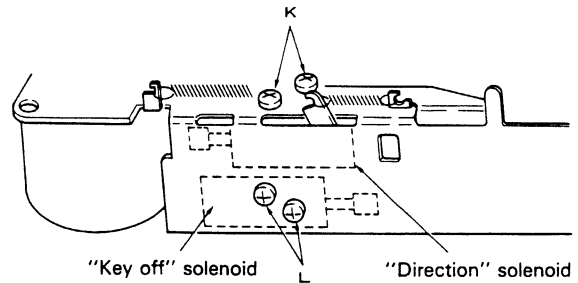

Fig. 11
2. To replace the "direction" solenoid, remove the two screws labeled "K" (Figure 11). To replace the "key-off" solenoid, remove the two screws labeled "L" in that figure.